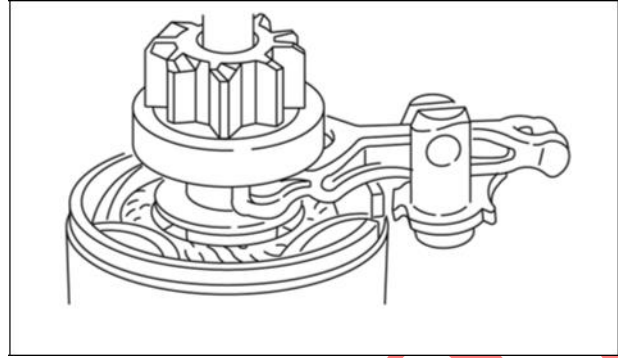

Figure 57
2. Place drive housing in a vise (Figure 57).